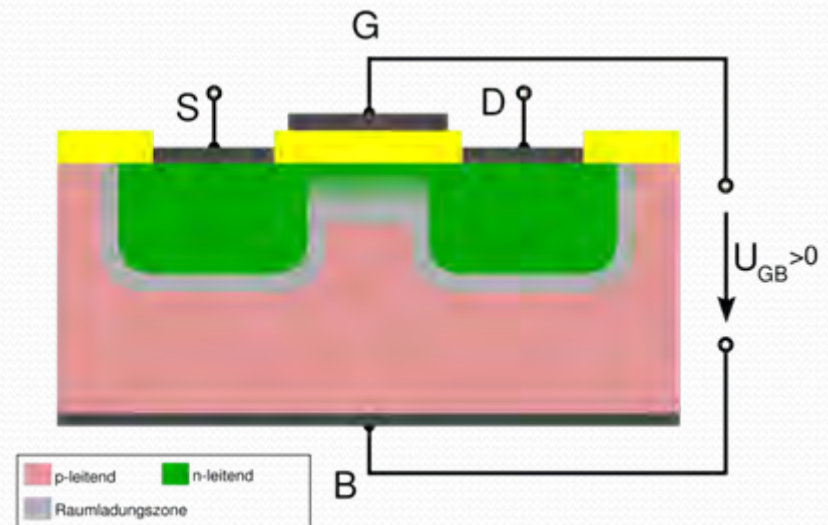

Abb. 13
- Abb. 13: [http://upload.wikimedia.org/wikipedia/commons/thumb/2/20/Scheme\\_of\\_n-metal\\_oxide\\_semiconductor\\_field-effect\\_transistor\\_with\\_channel\\_de.svg/625px-Scheme\\_of\\_n-metal\\_oxide\\_semiconductor\\_field-effect\\_transistor\\_with\\_channel\\_de.svg.png](http://upload.wikimedia.org/wikipedia/commons/thumb/2/20/Scheme_of_n-metal_oxide_semiconductor_field-effect_transistor_with_channel_de.svg/625px-Scheme_of_n-metal_oxide_semiconductor_field-effect_transistor_with_channel_de.svg.png)